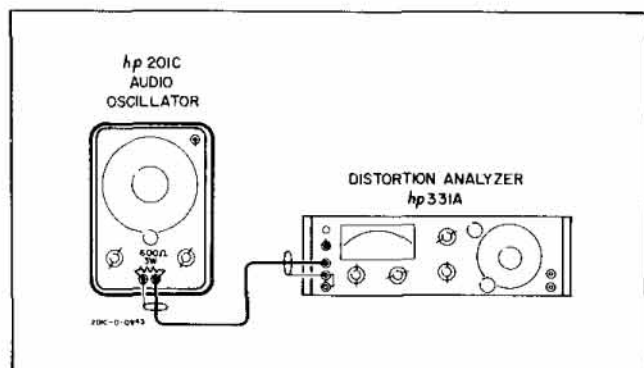

Figure 5-3. Distortion Check
- Connect test setup as shown in Figure 5-3, including a 600-ohm load resistor across the output terminals of Model 201C.
- Connect test setup as shown in Figure 5-3, including a 600 ohm 3 watt load resistor across the output terminals of Model 201C.
- a. Connect the 201C output to the input of the 331A Distortion Analyzer as in Figure 5-3.